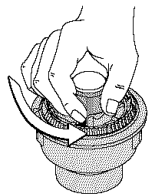

Fig. 23
- Hold the outer spool, and unscrew the bump knob counterclockwise (Fig. 23).